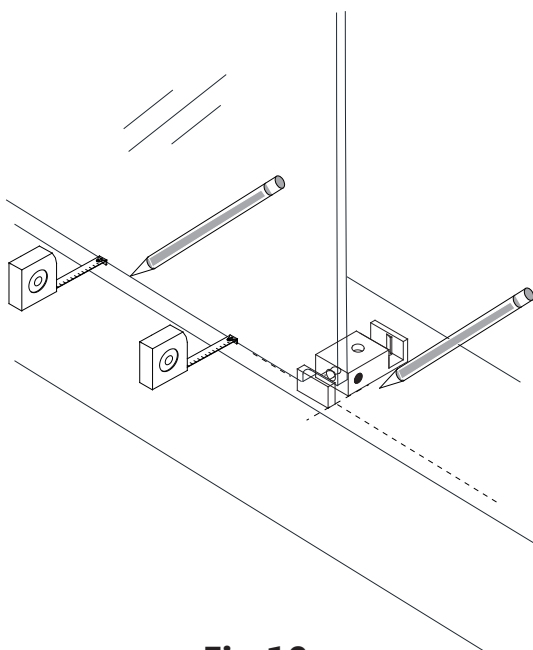
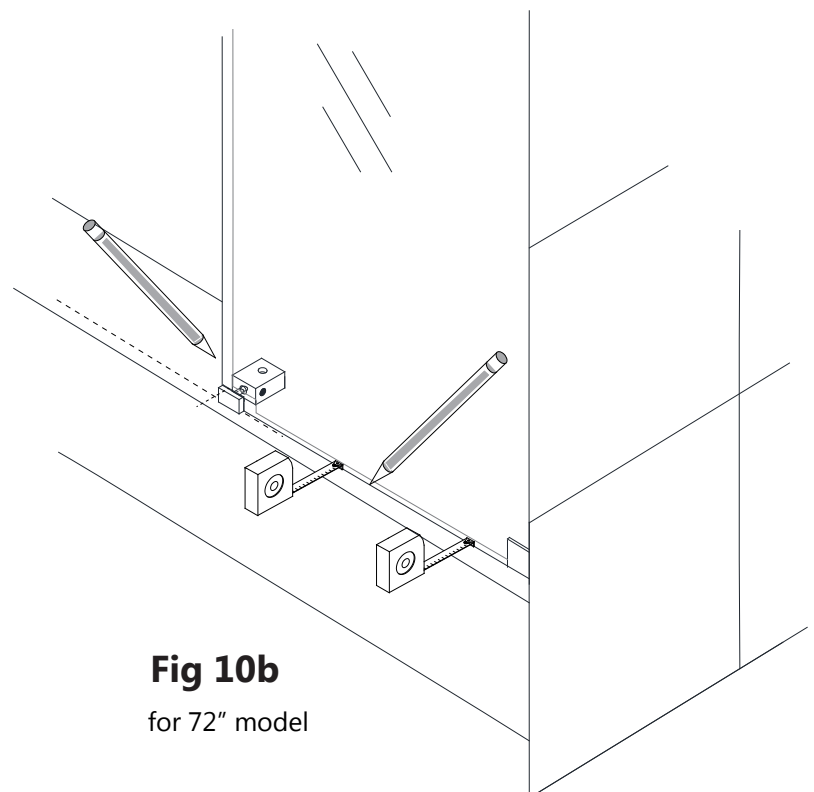

Fig 10a
Fig 10b
9. Make sure that the **Stationary Glass (#02)** is parallel to the front edge of the threshold and mark it. Slide the **Guide Block (#12)** into the notch of the **Stationary Glass (#02)**, and align flush with the edge (Fig 10a). Mark its position and also mark the hole for drilling using a pencil (or center punch.)
Note: If installing the 72" model, also position the **Small Stationary Glass Bottom Bracket (#22)** with the edge of the **Small Stationary Glass (#23)** (Fig 10b) and mark its position and the hole for drilling. (**Fig 10a and 10b**)